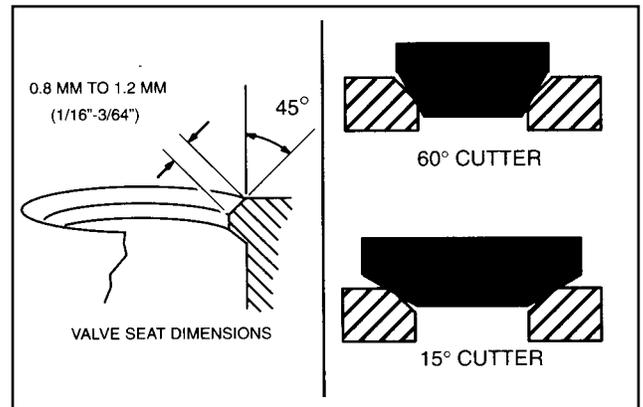

**Figure 5-8. Check valve guides**
2. Clean the valve guides and measure their I.D. using a split ball bore gauge (Figure 5-8).